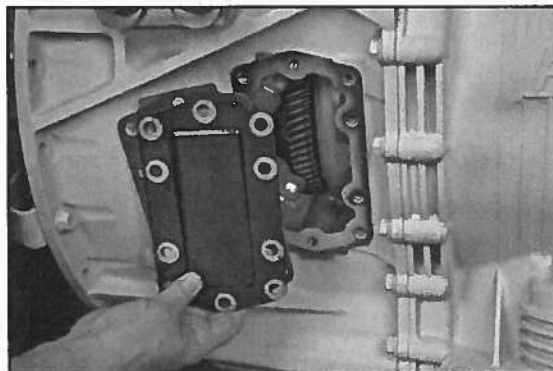

Fig. 11
3. Remove the gasket and clean the aperture surface (**Fig. 11**).